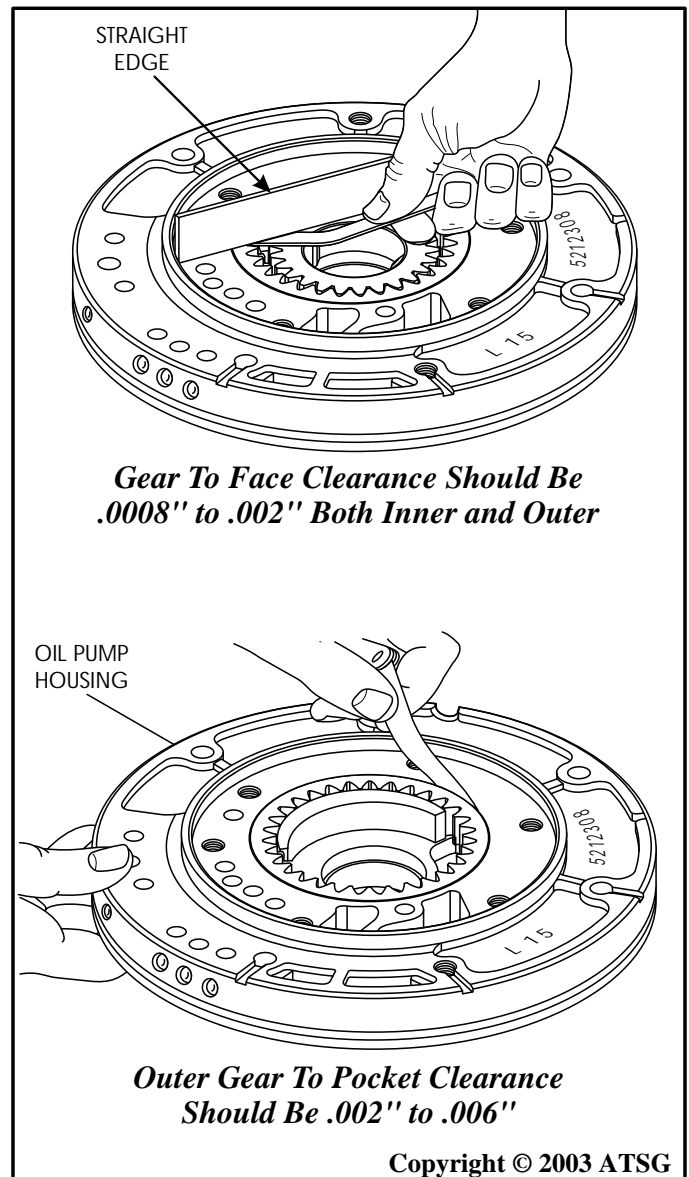

Figure 85
3. Install the pump gears into the pump housing pocket, as shown in Figure 85, and check the outer gear to pump pocket clearance, using a feeler gauge.
4. With the pump gears installed in pump pocket, check the gear to face clearance using a feeler gauge and straight edge (See Figure 85).